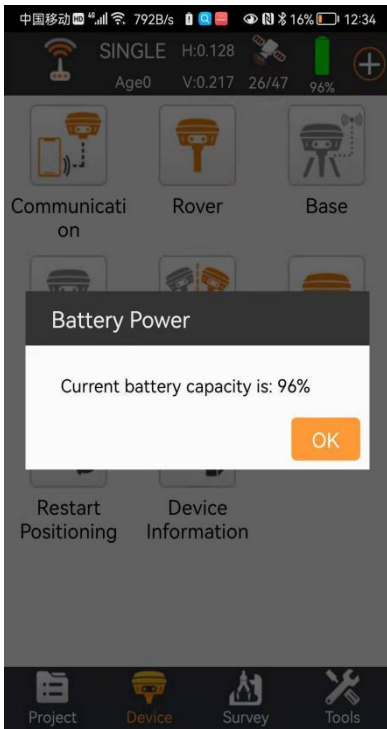

Figure 3.7-1
1. Click the [power icon] in the title column of the software to view the battery power of the equipment, as shown in Fig. 3.7-1.